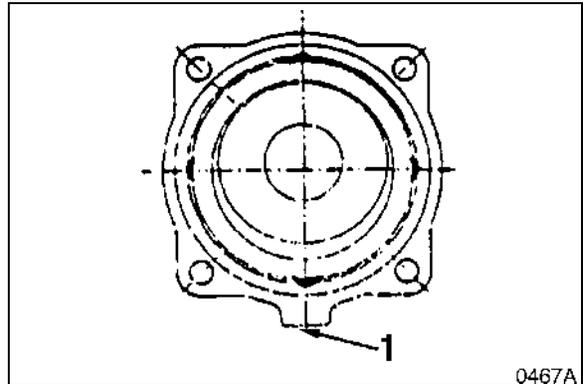

Figure 38 \
12. Turn motor so that front cover side (304) is down. Put separator plates (743) and friction plates (742) back in same order in which they were removed. There are three separator plates (743) and two friction plates (742), which should be positioned as shown in drawing below, with clearance towards side of casing with brake valve (1, Figure 38).